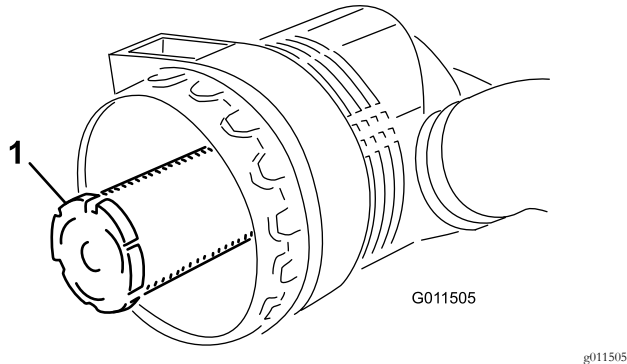

**Figure 46**
4. Remove the primary filter (Figure 46).
7. Replace the primary filter (Figure 46).